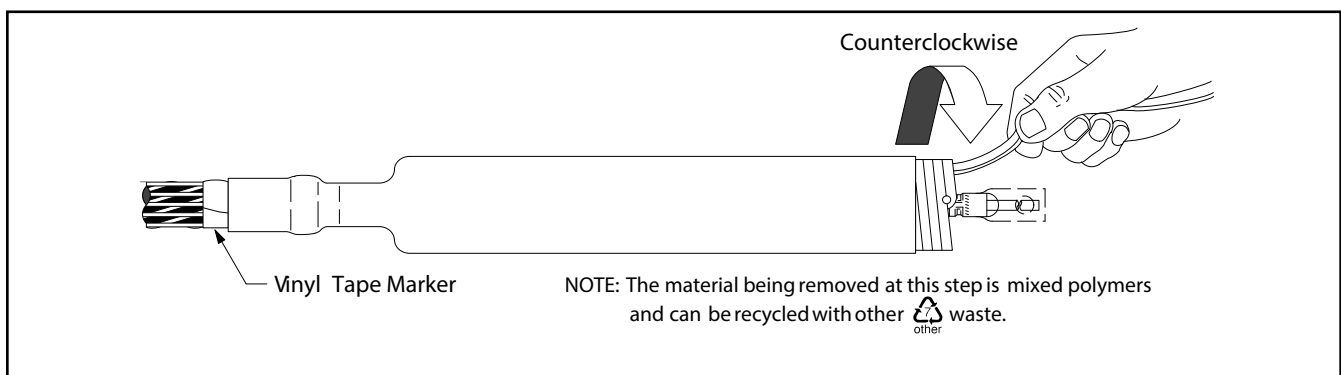

Figure 10
- 9.1 Slide the termination body onto the cable and remove core. Pull while unwinding, counterclockwise, starting with the loose end (Figure 10). Make sure the termination body (not the core) is butted up to the edge of the vinyl tape marker previously applied (Figure 10).